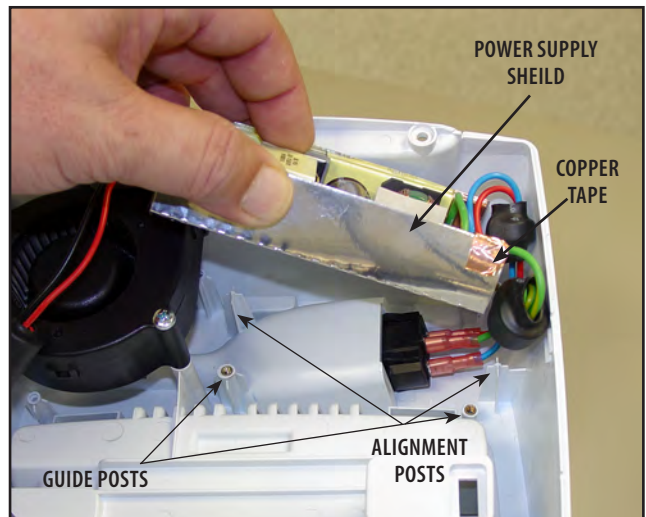

FIGURE 6.7
3. Lift Power Supply Assembly up to remove from mounting tabs. See Figure 6.7.
- When installing the shield on the Power Supply make certain that the shield does not get caught on the Power Supply guide posts. See Figure 6.7
9. Remove the Copper Tape from the shield. **See Figure 6.7.**